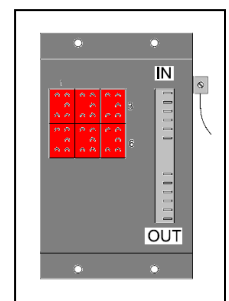

Fig. 11
- 2.1.1** Punch outgoing copper pairs onto the “Out” side of the available pins of the 6-pair solid state protector block. See Figure 11. The “Out” side of the protector block always “points” to the world outside of the HVI, be it in the substation (Control House) or in the network (PSTN). The pre-installed protector block is pre-connected to ground bar installed on the backboard. Refer to Section 1.2 for notes on grounding.